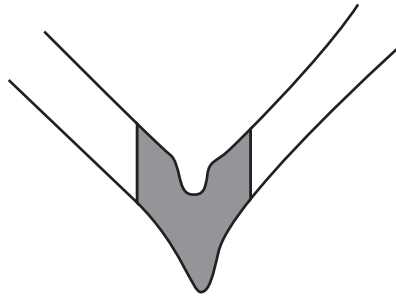

Fig. 2.1
- (a) Draw a large plan diagram of the part of the leaf indicated by the shaded area in Fig. 2.1.